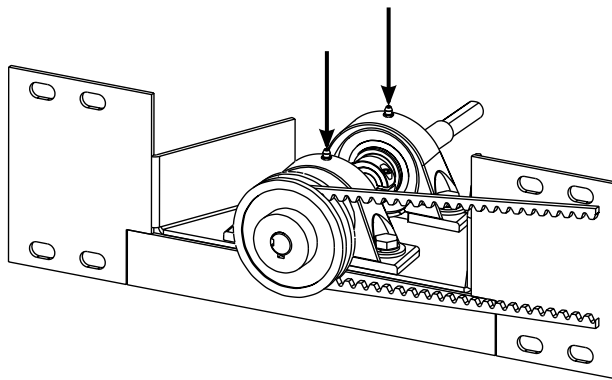

Figure 4-41.
Grease the two (2) main blower fan shaft bearings (Figure 4-41), using a special grease (MMP/N 17110-0015 lithium-base, high-temperature grease). ONLY ONE STROKE of a grease gun is required for each bearing.